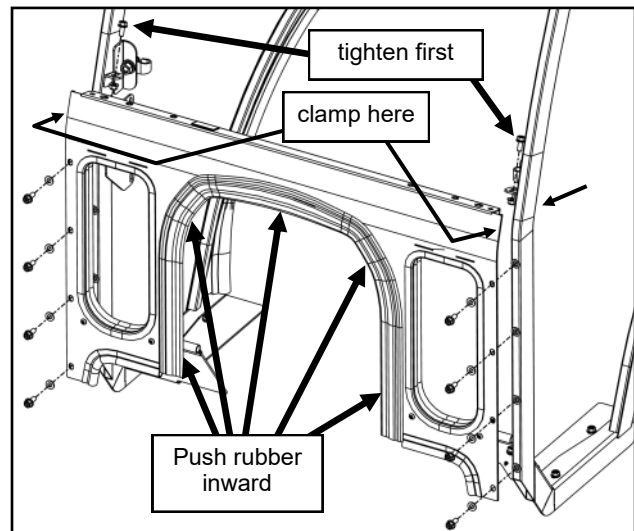

Fig. 7.1 (cowl installation onto sideframes)
7.1 Fasten the cowl to the sideframes as shown in figure 7.1. The 1" flat bulb rubber should lay across the dashboard and flex inwards towards the steering wheel. Fasten to the factory installed threaded inserts in each side frame. Starting from the top, install all fasteners finger tight. Next, clamp as shown, tighten upper (2) screws first and then tighten lower (8) screws.